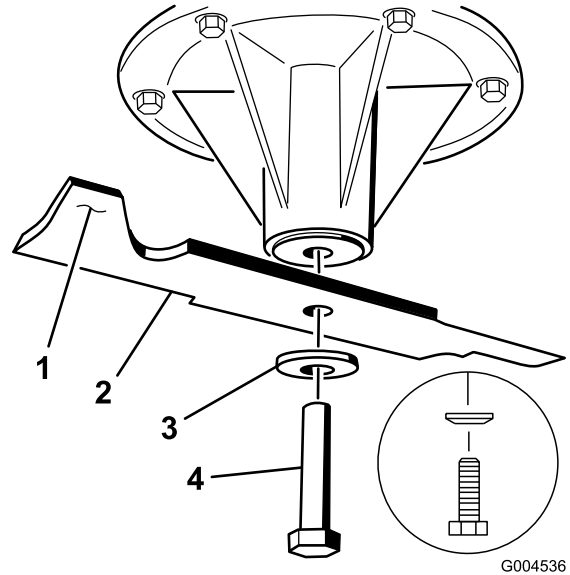
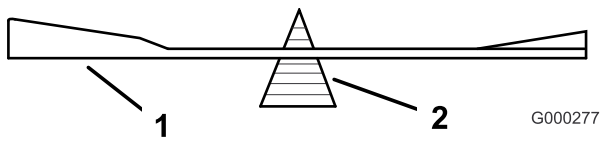

Figure 82
Figure 84
2. Remove the blade bolt, curved washer, and blade from the spindle shaft (Figure 82).
2. Check the balance of the blade by putting it on a blade balancer (Figure 84). If the blade stays in a horizontal position, the blade is balanced and can be used. If the blade is not balanced, file some metal off the end of the sail area only (Figure 82). Repeat this procedure until the blade is balanced.